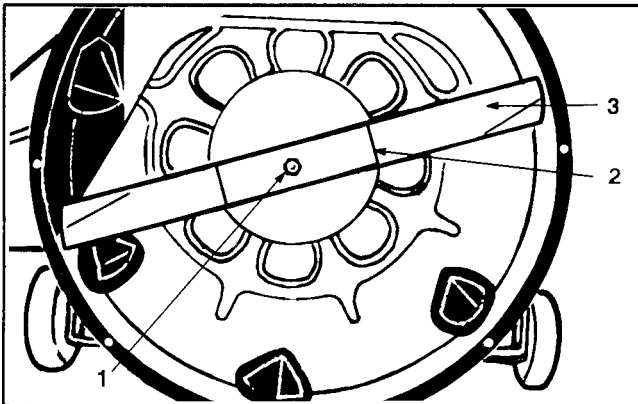

Figure 21
6. Grasp the end of the blade using a rag or thickly padded glove; then remove the blade bolt, washer, blade stiffener and blade (Fig. 21).
9. In sequence, install the blade, the blade stiffener, washer and blade bolt (Fig. 21). Install the concave side of the curved washer against the blade. Tighten the blade bolt to 45-60 ft-lb (61-81 Nm).
7. While the rider is tipped on end, check condition of blade (Fig. 21).